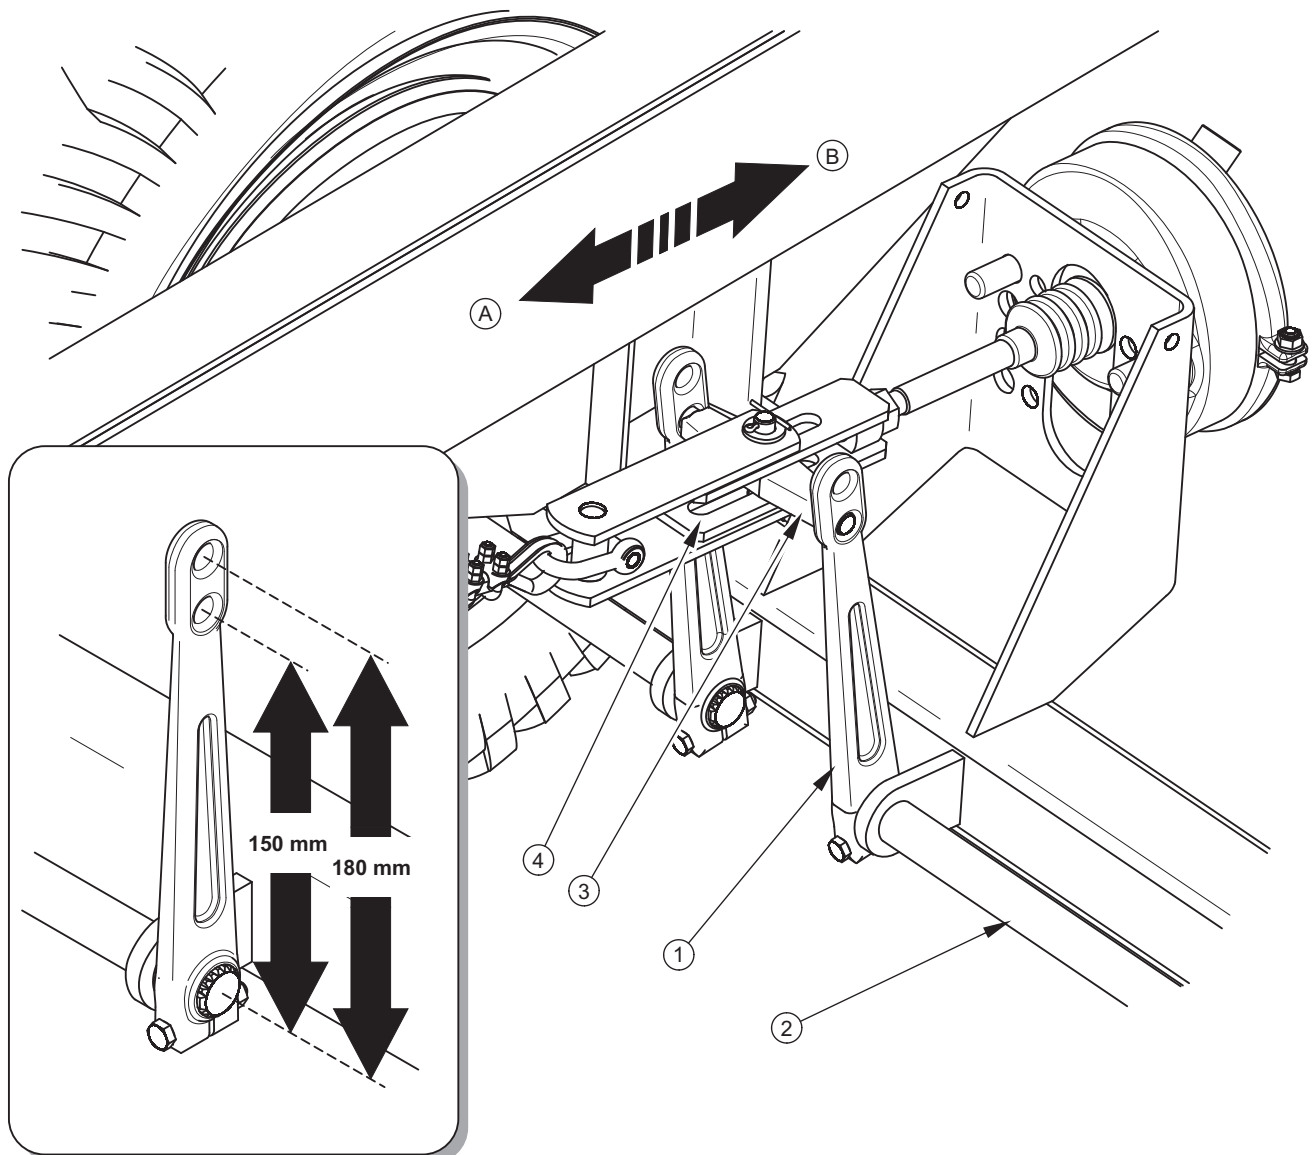

FIG. 5.4 Adjustment of axle mechanical brakes
Trailer wheels must brake simultaneously. Brakes adjustment involves changing the setting of the expander arm (1) (FIGURE 5.4), in relation to expander shaft (2).